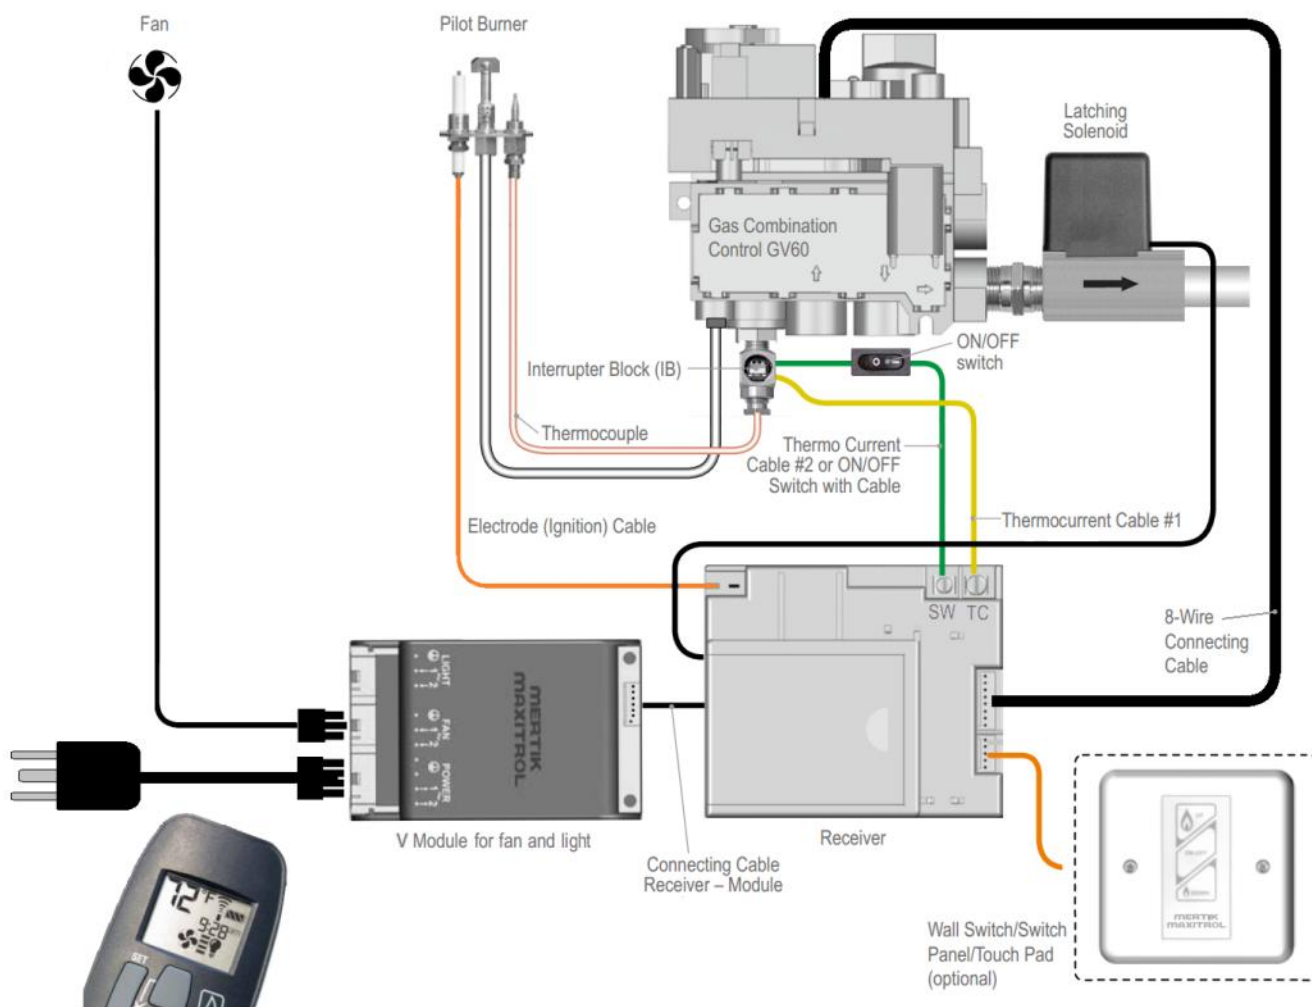

Figure 13 – Waitsfield 8770 Wiring Diagram
(See *Figure 13*, page 16)
1. Remove orange ignition wire from Control module and insert onto Piezo Ignitor Connection on valve top (see Figures 13 and 16).